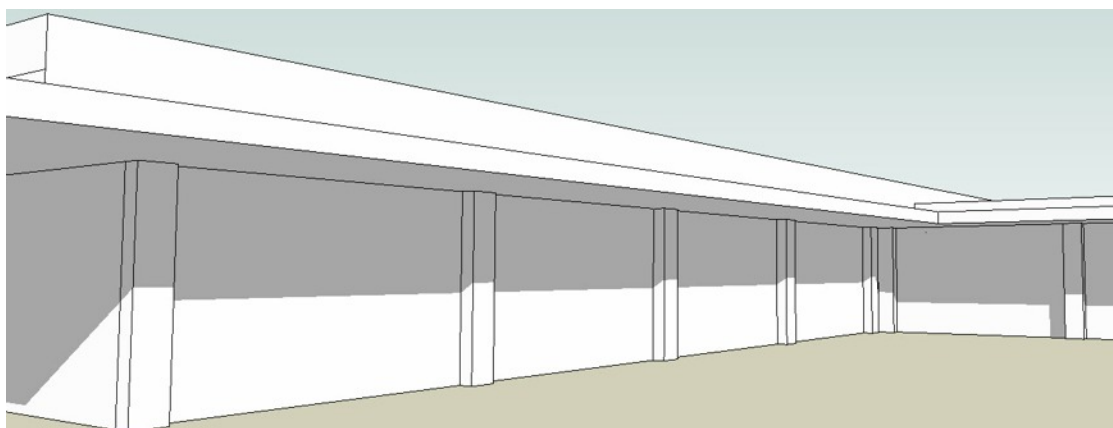

Figure 40. The pillar arrayed along the face of Building 2.
- Use **Move** to place the pillar at the corner of the building ensuring that the rear left hand corner of the pillar is placed on the corner of the building as shown in Figure 40.
- Using **MOVE** and **CTRL**, copy the pillar 20000mm (20m) along the face of the building, the Red axis, ensuring that the rear corner of the pillar is selected as the endpoint. Enter **4/** in the Length window this time to copy a total of 4 copies of the pillar as shown in Figure 40.